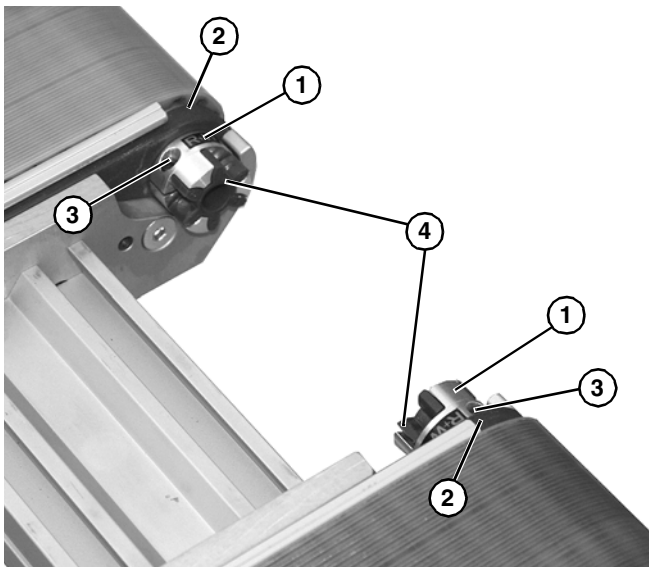

**Figure 26**
2. Install M6x25 low head capscrew (**Figure 26, item 1**) onto spindle plate (**Figure 26, item 2**).
3. Install M6x25 flat head screw (**Figure 26, item 3**) to secure front side of plate. Repeat on opposite side.